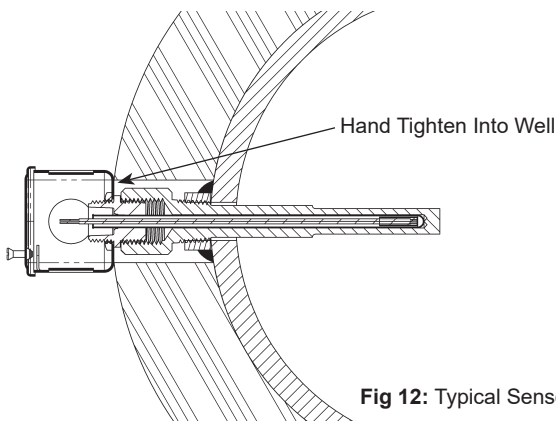

Fig 12: Typical Sensor Inserted
**Application:** Figure 12 shows a typical thermowell and immersion probe installed into a pipe. In a properly insulated pipe with liquid or steam, the temperature is essentially the same across the entire cross section of the pipe. Usually thermowells are sized to extend to the center of the pipe; however, shorter thermowells will give proper temperature readings if properly insulated. The shorter thermowells are used in pipes with high flow velocities. See Application notes “Thermowells Explained” on our website [www.bapihvac.com](http://www.bapihvac.com).